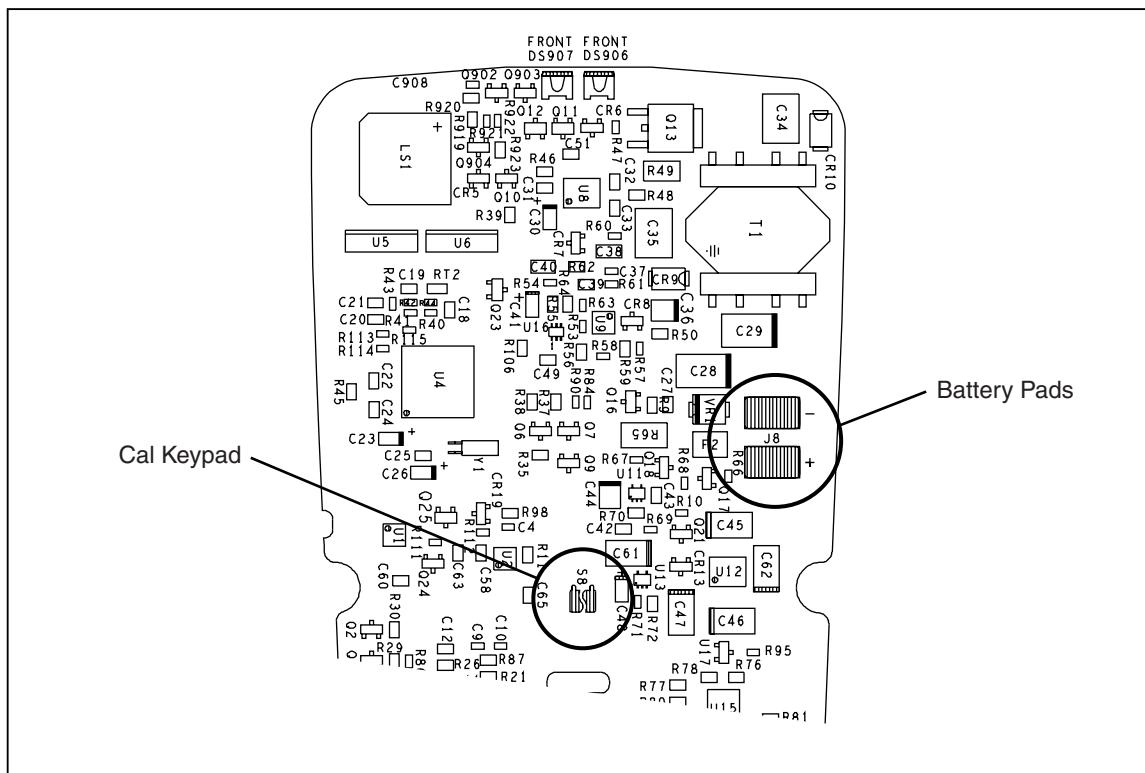

Figure 10. Restoring the Default Password
2. Apply 6.0 V across the battery contact pads (J8) + and - on the PCA. See Figure 10.
3. Short across the Cal keypad (S8) on the back of the PCA. See Figure 10.
User service is limited to replacing parts. Table 10 identifies the replacement parts used by all models, Tables 11, 12, and 13 identify the replacement parts unique to each model. Figure 10 shows the location of each part. To order replacement parts refer to *Contacting Fluke* earlier in this manual.